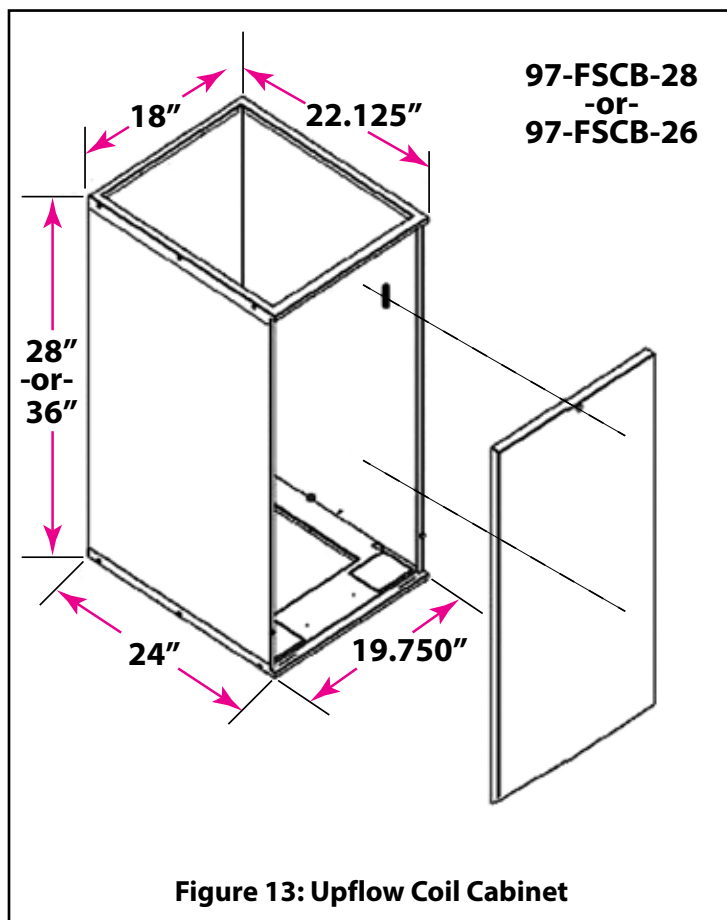

Figure 13: Upflow Coil Cabinet
6. If required, remove the left or right metal knockout (not both) in the bottom of the coil cabinet so the refrigerant lines and condensate drain line can be routed through it. Refer to Figure 13 for location of the metal knockouts.